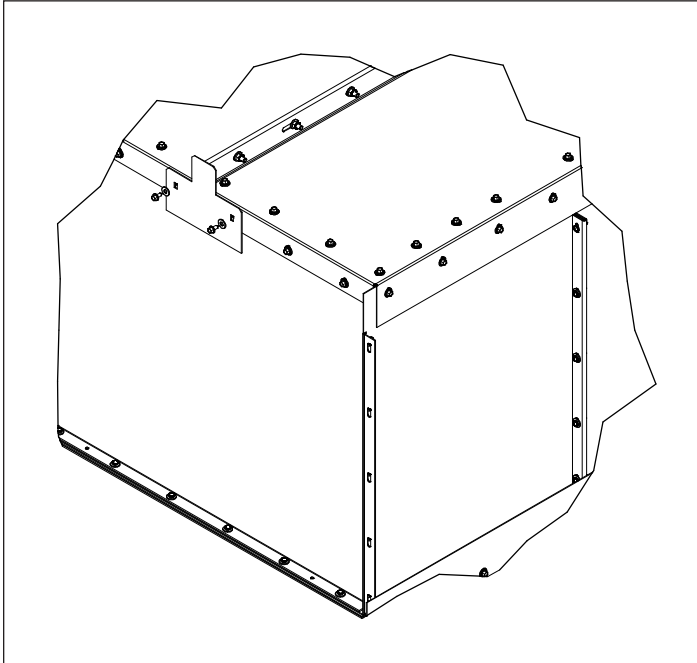

Figure 16. Seam and Gas Deflectors
- D. On the front and back of the plenum, install seam and gas deflectors (69C4344H01). (See **Figure 16**).